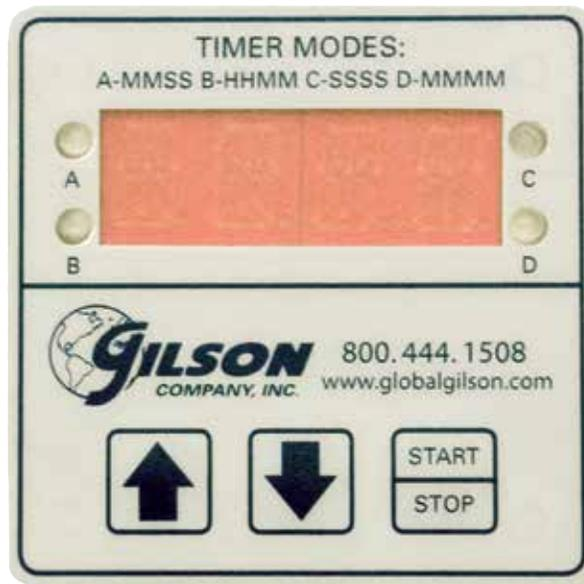

Figure 4
Rotate the vibration control knob on the right counter-clockwise to its <OFF> position. Push the mode switch on the left to <Manual Mode> (see Figure 4). Turn the amplitude knob clockwise to turn on vibration.
Current timer mode is indicated by the four red LED's on the timer face (see Figure 4).
5.4 Figure 4: Timer Face